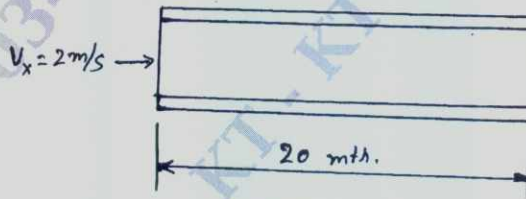

Fig Q8(b)
b. For the smooth pipe shown in Fig Q8(b), with uniform cross section of 1m^2 , determine the flow velocities at the centre and right end, Take velocity at left $V_x = 2\text{m/sec}$.